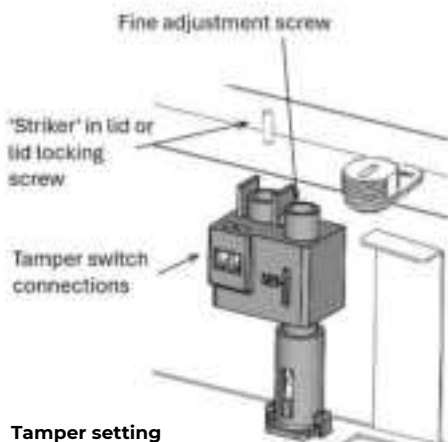

Figure 5: Tamper setting
3.6. Tamper (commissioning) (Figure 5)